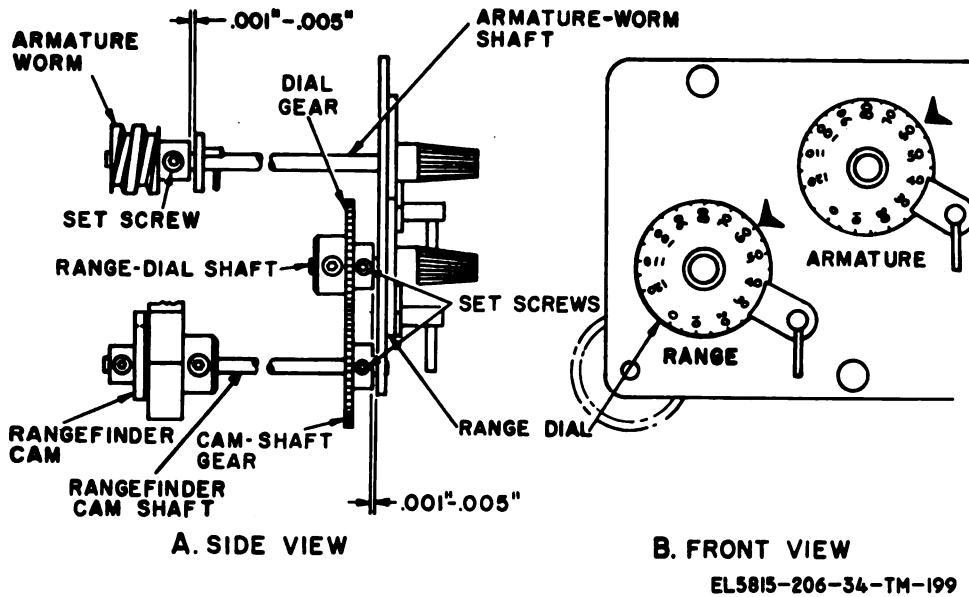
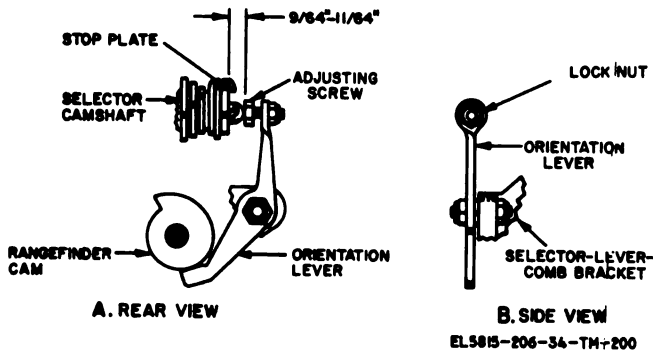

Figure 3-127. Rangefinder shaft adjustment.
Figure 3-128. Orientation lever adjustment requirements (TT-4B/TG, TT-4C/TG, TT-335/TG, TT-537/G, TT-698A/TG, and TT-698B/TG).
(1) There should be a 0.001- to 0.005-inch end play in the range-dial shaft, rangefinder cam shaft, and the armature-worm shaft (A, fig. 3-127).
(2) The RANGE dial should be set at 60 (B, fig. 3-127) when the high part of the rangefinder cam is against the lower arm of the orientation lever (A, fig. 3-128).
(1) Loosen the setscrews in the gears; position the gears to obtain the end play requirement; and tighten the setscrews.
(2) Loosen the setscrews in the armature worm; position the worm to meet the requirement; and tighten the setscrews.
(3) Position the RANGE dial at 60. Loosen the setscrews in the rangefinder cam; position the cam to meet the requirement; and tighten the setscrews.
**a. Requirement.** There should be a 9/64- to 11/64-inch clearance between the stop plate and the adjusting screw in the orientation lever when the lever is held against the midpoint of the rangefinder cam (A, fig. 3-128).
*b. Adjustment.* Loosen the locknut (B, fig. 3-128); hold the orientation lever against the rangefinder cam; turn the adjusting screw in or out to meet the requirement; and tighten the locknut.